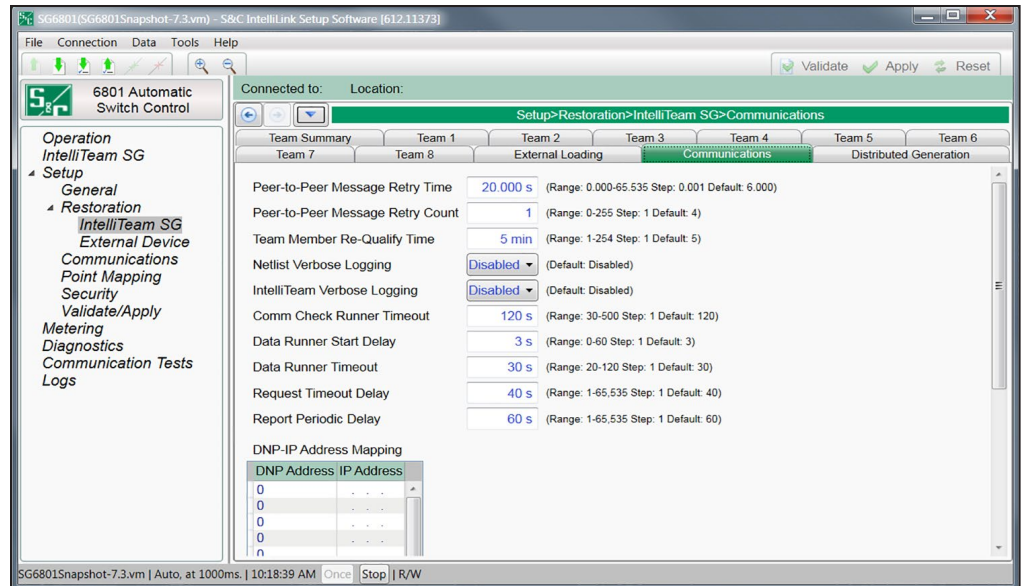

Figure 14. The Setup>Restoration>IntelliTeam SG>Communications screen.
STEP 7. For all devices in the IntelliTeam system, go to the *Setup>Restoration>IntelliTeam SG>Communications* screen and verify the **Data Runner Start Delay** setpoint is set to the default of 3 seconds. This is to ensure the data runners are sent at a frequency to get the loading data updated quickly if the current direction changes because of system events or during restoration. See Figure 14 on page 17.